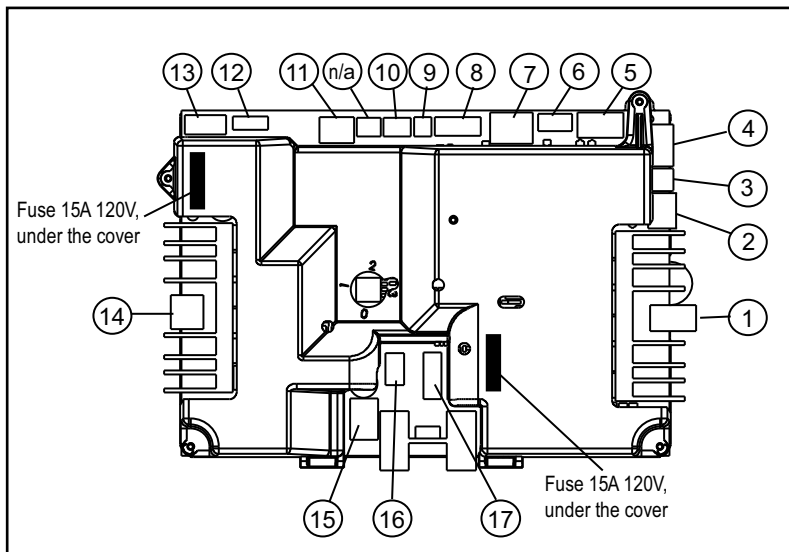

Figure 39.1
4. Disconnect the wire from the control board connection points #1 and #8. Depress the tab on the connector to disconnect the wire (similar to a telephone connector). **See Figure 39.1 on page 39** for the locations of #1 and #8.
5. Using an 11/32 socket or nut driver, remove the (6) 8x32 nuts securing the motor and impeller to the housing.
See Figure 39.1 below.